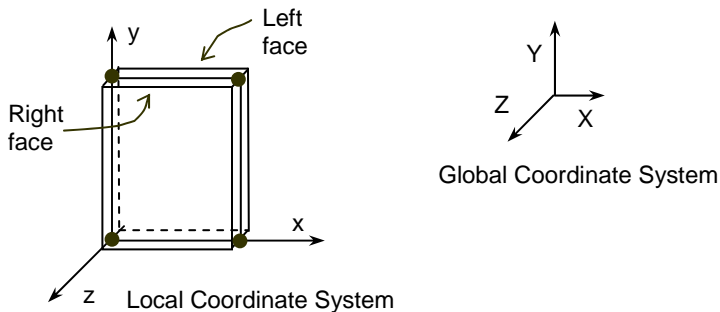

Fig. 2-4. The Plate Element
The rectangular plate finite element has four nodes, one at each corner, as shown in Figure 2-4. Each node has six degrees of freedom (D_x , D_y , D_z , R_x , R_y , and R_z). The rotation, R_z , is referred to as the drilling rotation (ref. 1).
When locating reinforcement within a plate element, the program refers to the left face and right face. The left face of the panel is defined as the face to the left of the plate centerline when looking along the positive X-axis. See Figure 2-4.